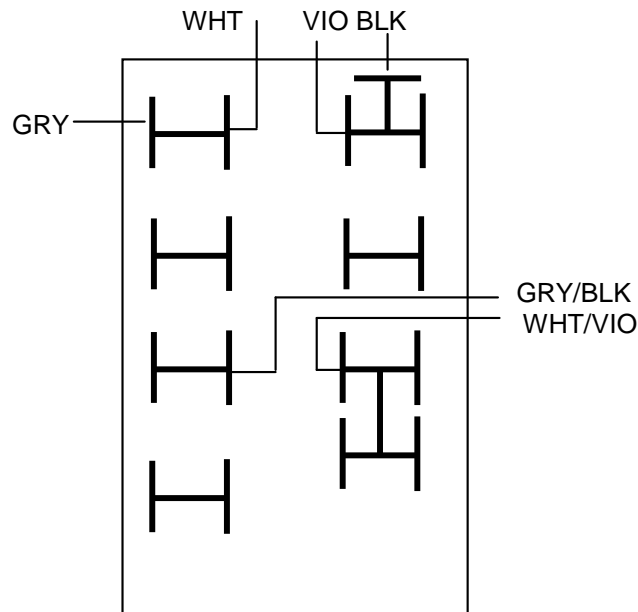

Fig. 3 Wired for 120VAC Conversion
- Step 1: Wire transformer terminal block for 120V operation as shown in Figure 3.